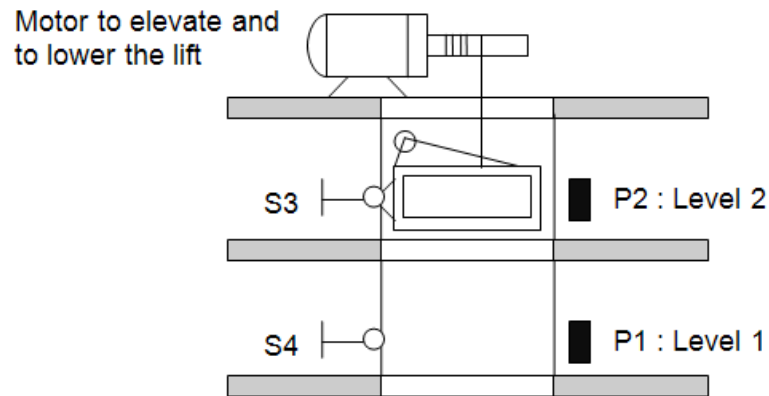

Figure 1: 2 Levels lift system
Figure 1 shows 2 levels of lift system used in a restaurant to permit the workers to send dishes from one level to another.
- List the inputs (sensors) and outputs (actuators) for the system in **Figure 1**.
- Draw the automated system structure for the system in **Figure 1**.